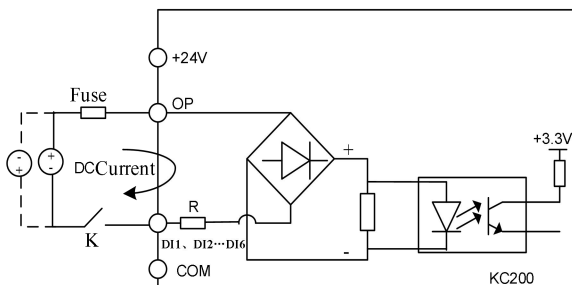

Figure 3-7 Use the connection method of external power supply
2) Use an external power supply (the power supply must meet the UL CLASS 2 standard, and a 4A fuse needs to be added to the power supply and interface). The wiring method is as shown in Figure 3-7 (note that the connecting wire between the OP and the 24V terminal is removed).